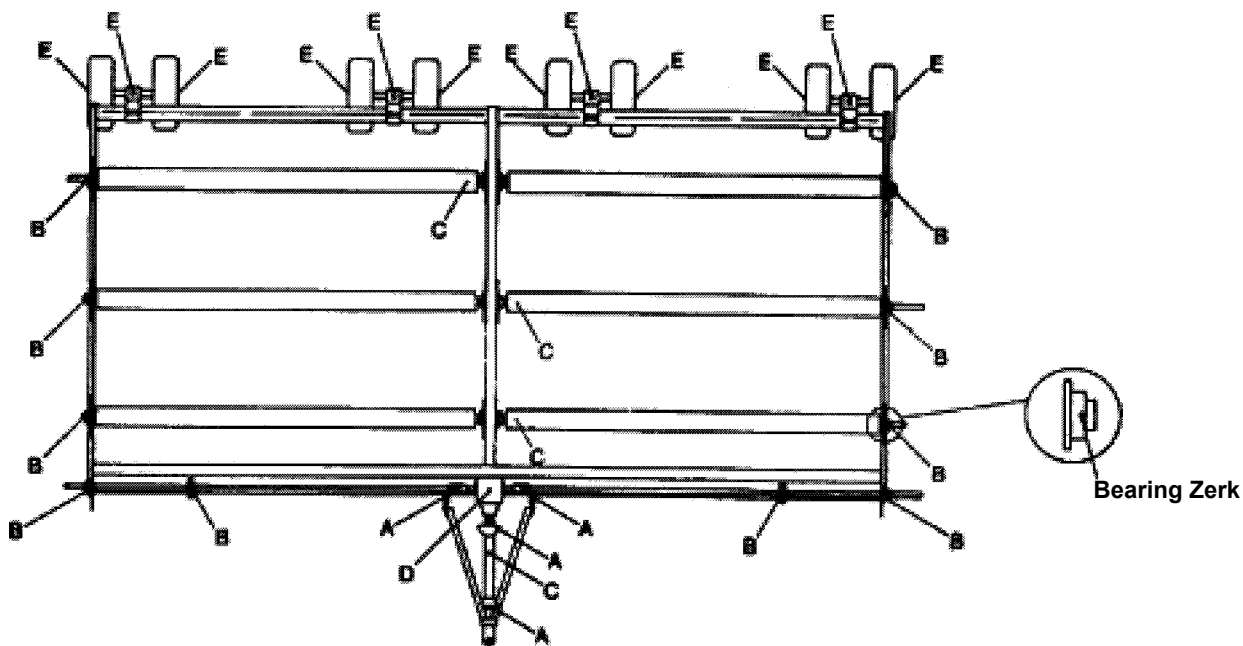

Figure 24. Lubrication Diagram
The period recommended is based on normal operating conditions. Severe or unusual conditions may require more frequent lubrication or oil changes. Refer to Figure 24 for details.
1. Lubricate PTO driveline, position A, Figure 22 and Figure 24.